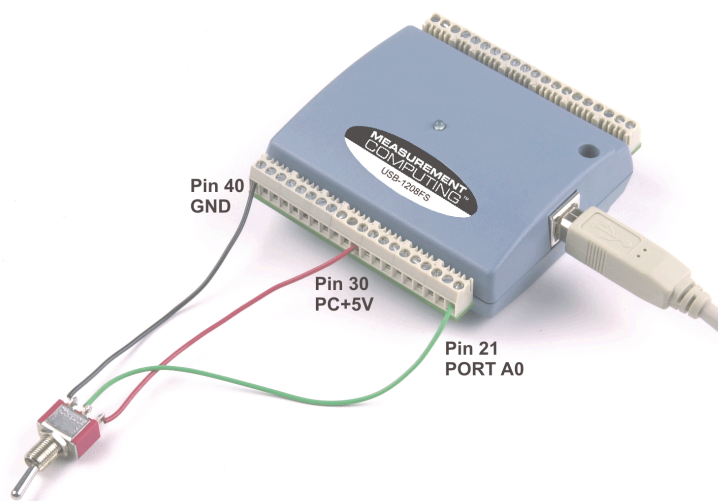
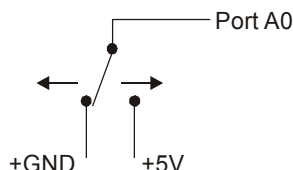

Figure 3-8. Digital connection Port A0 detecting the state of a switch
Figure 3-9. Schematic showing switch detection by digital channel Port A0
When you configure the digital bits for input, you can use the digital I/O terminals to detect the state of any TTL level input. Refer to the switch shown in Figure 3-8 and the schematic shown in Figure 3-9. If the switch is set to the +5 V input, Port A0 reads *TRUE* (1). If you move the switch to GND, Port A0 reads *FALSE*.